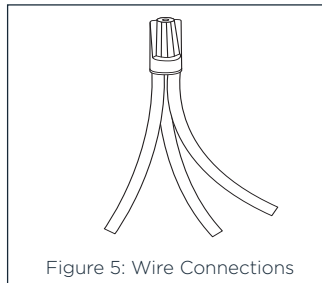

Figure 5: Wire Connections
2. Prepare the wires to be connected by stripping back the insulation to expose approximately 1/2" of copper. Combine the positive (+) wires from the amplifier, the speaker, and the line running to the next speaker. Using the included silicone filled wire nuts, twist the wires together ensuring that no copper is exposed (Figure 5). Repeat the same process for the negative (-) wires.